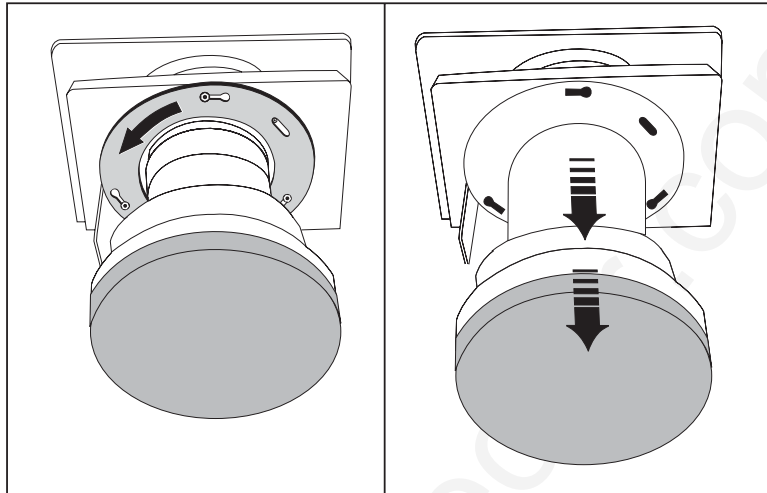

Figure 4.12. Rotate Lens and Remove (FIXED LENS SHOWN)
STEP 3 Rotate Lens and Remove (Figure 4.12)